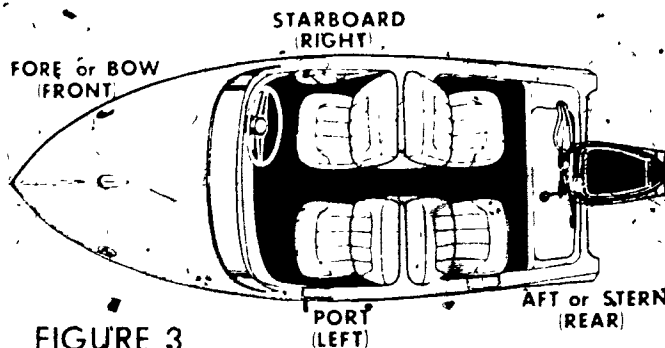

FIGURE 3
- H. If steering wheel turns more easily to left, position trailing edge on trim tab to left (Figure 3)
- I. If steering wheel turns more easily to right, position trailing edge on trim tab to right (Figure 3)